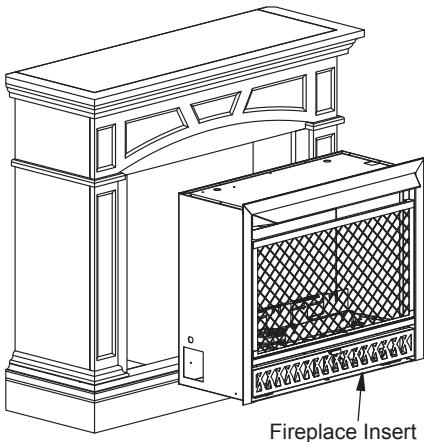

Figure 34
6. After assembling the mantel, lift to the upright position. Carefully, push the fireplace insert from the front of the mantel as shown in Figure 34.